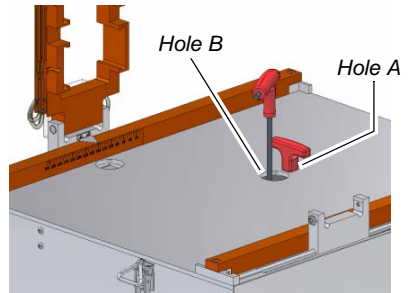

Figure 9. Insert T-bar into hole A, then use Hexagonal wrench to loosen bolts in hole B
5. Put the T-Bar tool through Hole A (Figure 9), this will lock the carriage in position.